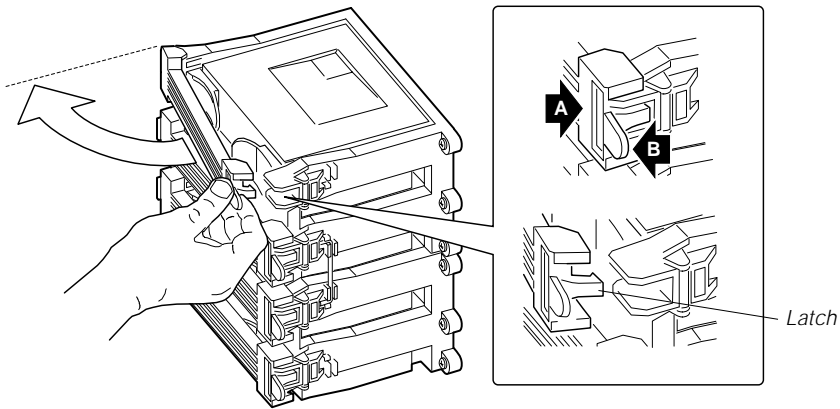

Figure 5: Releasing the Retention Module Bracket
4. With your right thumb on the face of the retention module bracket (A in Figure 5), wrap your right index finger around the tab (B in Figure 5) protruding from the right edge of the bracket.
5. Use your index finger to slightly pull the tab outward and to the left. You should not try to pull the entire bracket; rather, the back of the tab has a latch (C in Figure 5) that releases when the tab is pulled slightly.